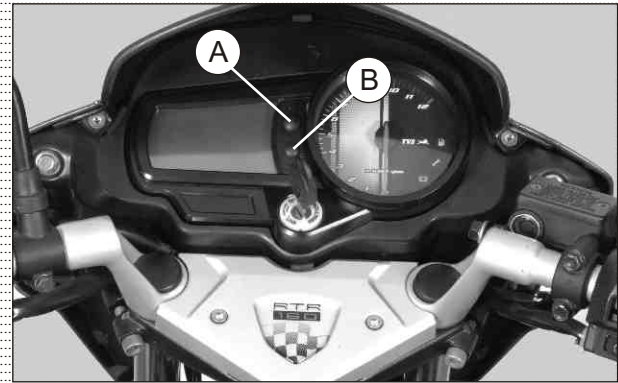

Fig. 5.45
- To reset trip meter, select the mode required and press and hold the mode button (B) for few seconds. Selected trip meter resets to zero. (Fig. 5.45)
- Press and hold set button (A) for few seconds to change clock timing format from 12 hour to 24 hour or vise versa. (Fig. 5.45)
- Press and hold mode button (B) for few seconds to change digital clock in to reset mode. (Fig. 5.45)
- Press the set button (A) to increase the hours. (while hour digits are blinking) (Fig. 5.45)
- To switch the setting of hours to minutes, press the mode switch button (B) again for few seconds. (Fig. 5.45)
- While hour digits are blinking, press set button (A) to set hour digits from the progressive digits display for a each set button press. (Fig. 5.45)